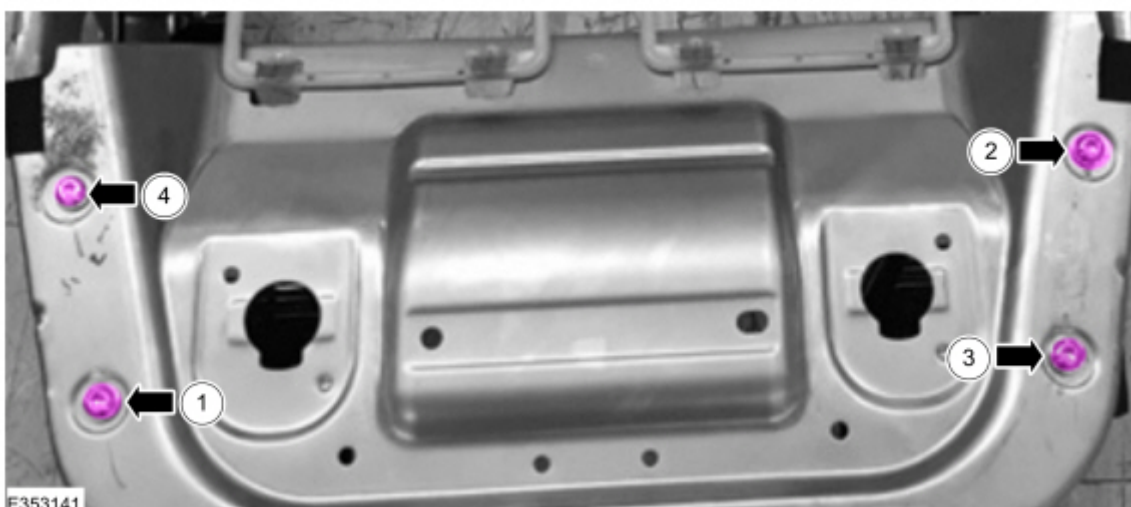

Figure 7
5. Refit the front half pan and tighten the T30 Torx screws in the correct sequence. (Figure 7)